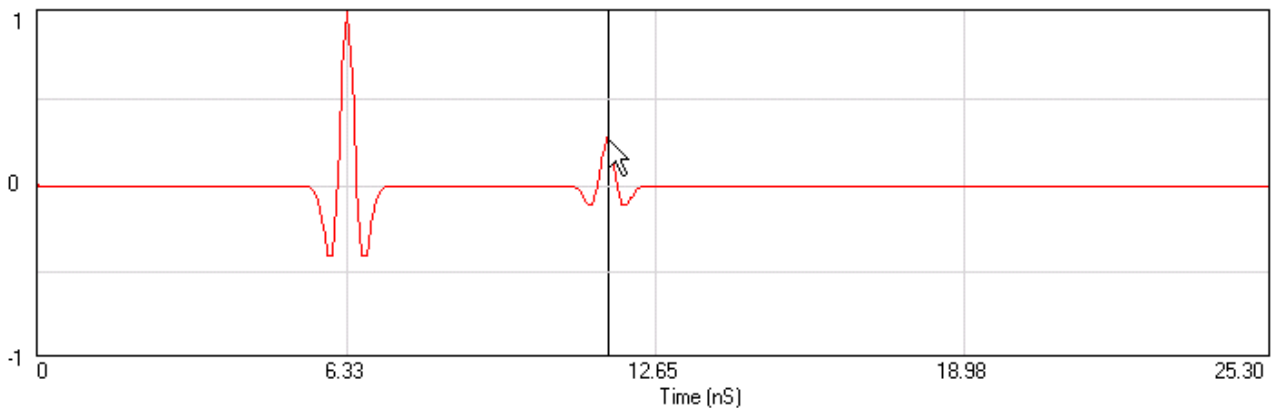

Fig. 10 Measurement of the thickness of a layer with known relative dielectric constant
3. Press the simulate button and a trace like figure 10 should appear. The first wiggle is the reflection at the surface and the second is the reflection at the interface between the first and the second layers.